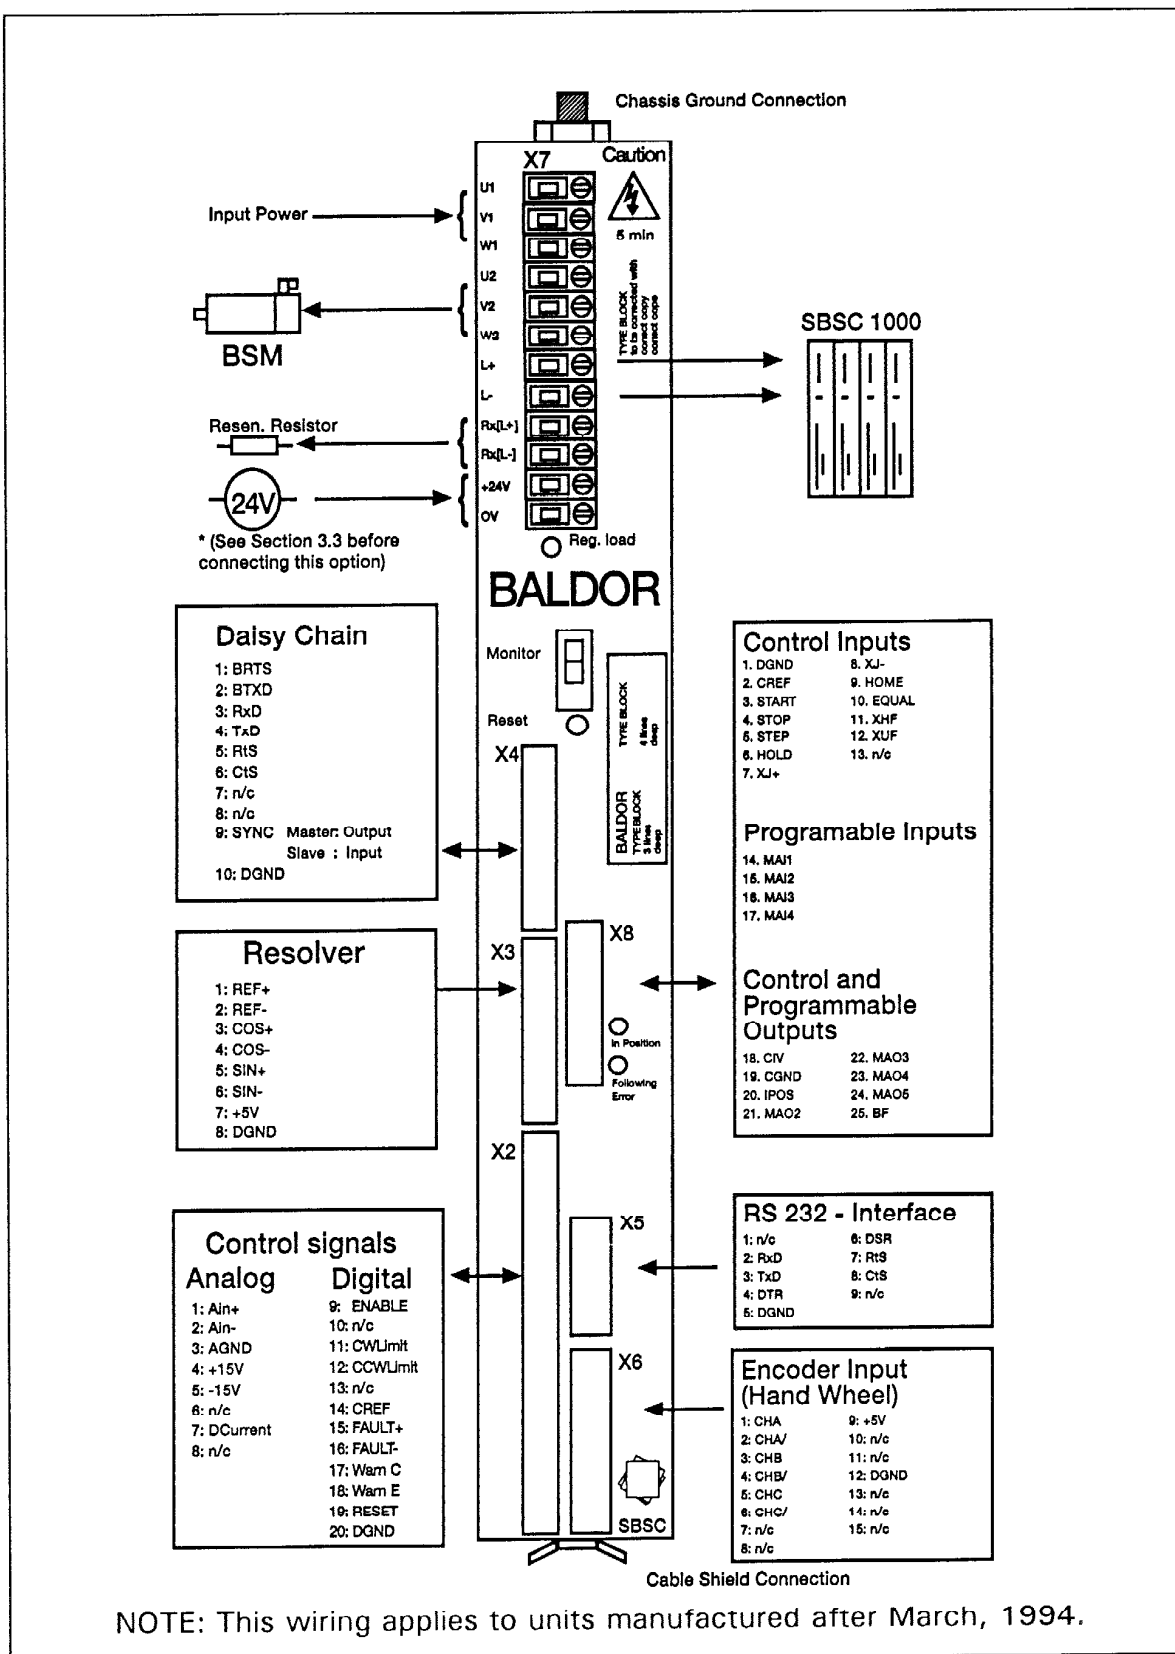

Figure 3-1 SBSC 1000/1100 Connectors
3. Connect all pins of the Daisy Chain Connector X4 of A0 (the first axis) to the Daisy Chain Connector X4 of all the other axes (refer to Figure 3-1 for connector locations).
4. Tie the RESET inputs (Control Signals Connector X2, pin 19) of all the axes together (refer to Figure 3-1 for connector locations).